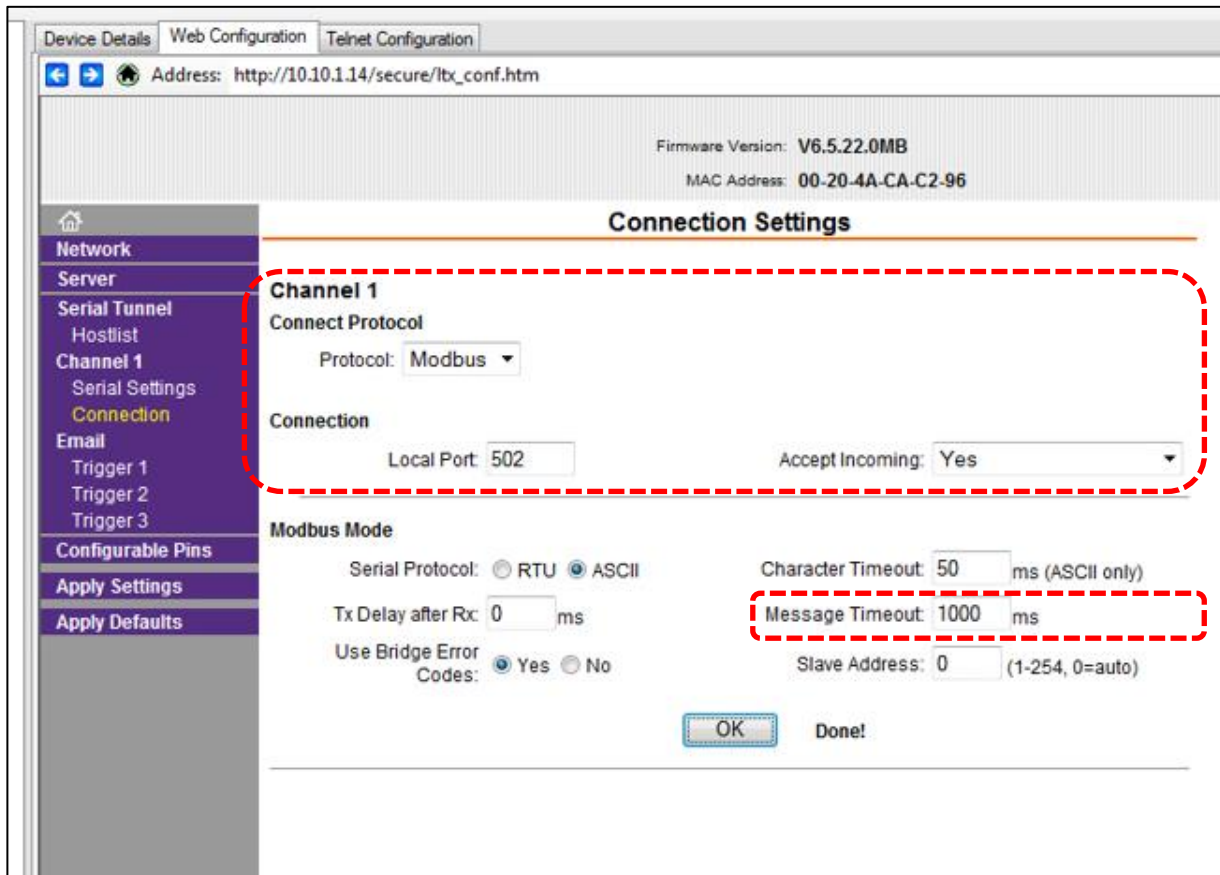

Figure 4-11 Connections
- Press the OK button. Connections Settings will display Done! as shown in Figure 4-11.